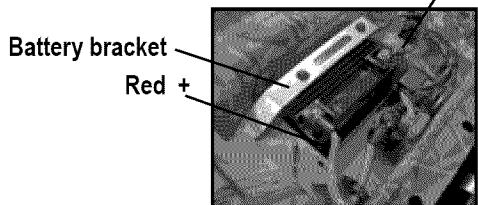

Figure 28
- Once battery is firmly seated in battery compartment attach the red positive wire to the red positive terminal on the battery. (see figure 28)
- Then attach the black negative wire to the black negative terminal on the battery. (see figure 28)
- Install the battery bracket (see figure 28)
- Remove old battery from under seat. The battery bracket will need to be removed (see figure 28). Mark which cable is connected to the positive terminal (+) and which cable is connected to the negative (-) terminal.